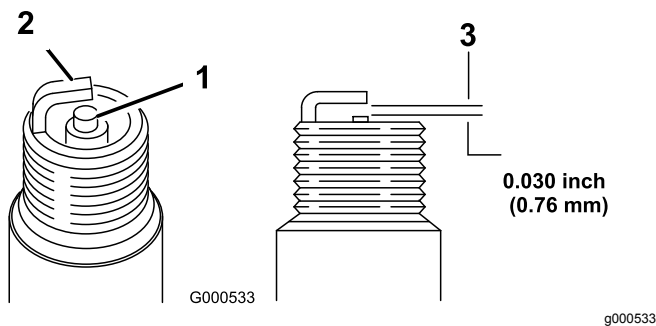

Figure 21
5. Set the gap on the new plug to 0.76 mm as shown in Figure 21.